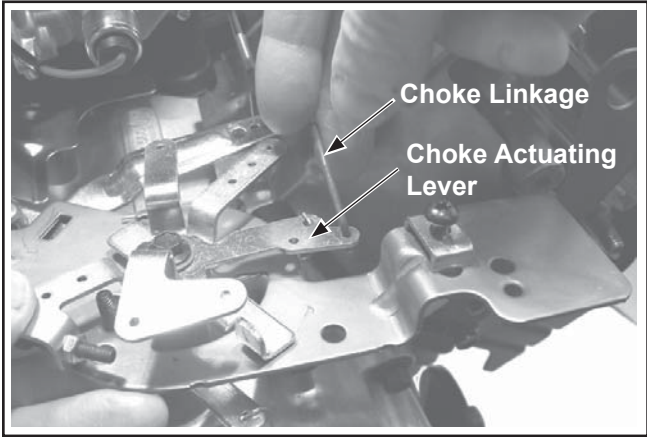

Figure 10-76. Connecting Choke Linkage.
- 1. Connect the choke linkage to the choke actuator lever on the main control bracket assembly. See Figure 10-76.